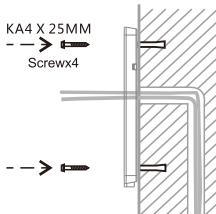

Figure 6
B. With 4 KA5 x 25mm screws, tighten the Wall-mounted hanging shell as shown in Figure 6.